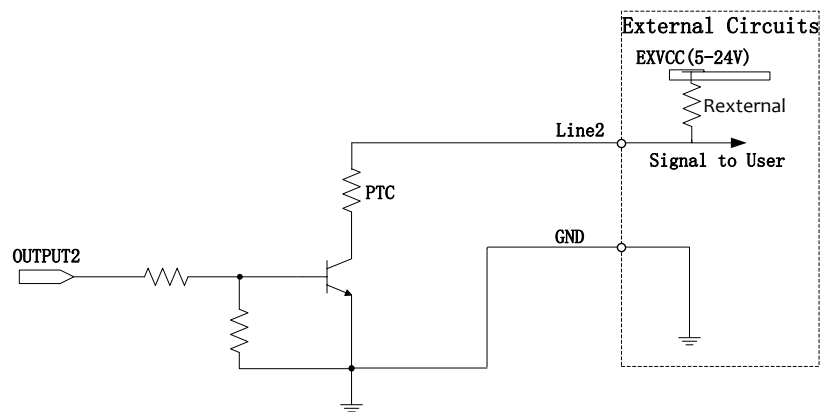

Figure 2-6 Equivalent circuit of camera when Line2 is configured as output
- When Line2/3 is configured as output, the equivalent circuit of camera is shown as Figure 2-6, for Line2 as an example.